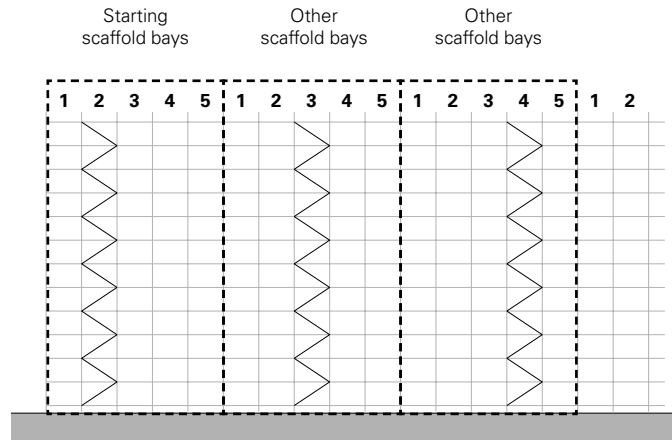

Fig. A5.01
- To brace the outer vertical plane, use vertical braces with a tower-like diagonal bracing arrangement. One diagonal brace may be used to brace a maximum of five scaffold bays. (Fig. A5.01)